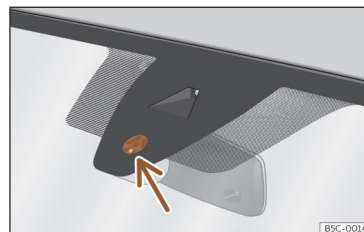

Fig. 112 Sensitive surface of the rain sensor.
The possible causes of anomalies and erroneous interpretations in the sensitive surface area >>> **Fig. 112** of the rain sensor are, among others:
- **Dirt:** dry dust, wax, coating on glass (Lotus effect) or traces of detergent (car wash) may reduce the effectiveness of the rain sensor or make it react more slowly, later or not at all. Regularly clean the sensitive surface of the rain sensor >>> **Fig. 112** (arrow) and check for possible damage to the wiper blades.